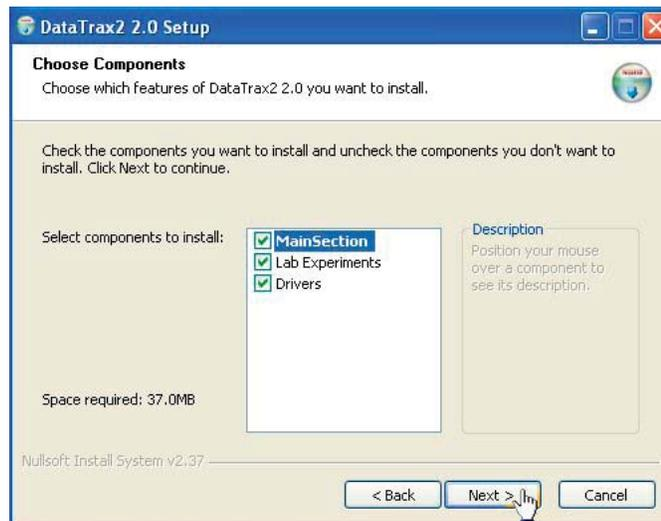

Fig. 21—Component Choice
3. After reviewing the license agreement, click the **I Agree** button. The wizard will then ask for a choice of components to install (Fig. 21).